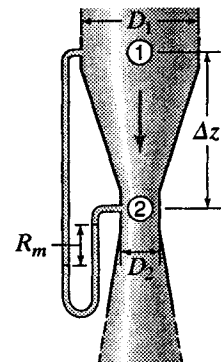

Figure S11.4
11.7.1 The venturi meter of Fig. S11.4 has $D_1 = 8$ in, $D_2 = 4$ in, and $\Delta z = 1.5$ ft. Assume the discharge coefficients of Fig. 11.19 are applicable. Find the flow rate of 72°F water when the manometer containing carbon tetrachloride ($s = 1.59$) reads $R_m = 4$ in.